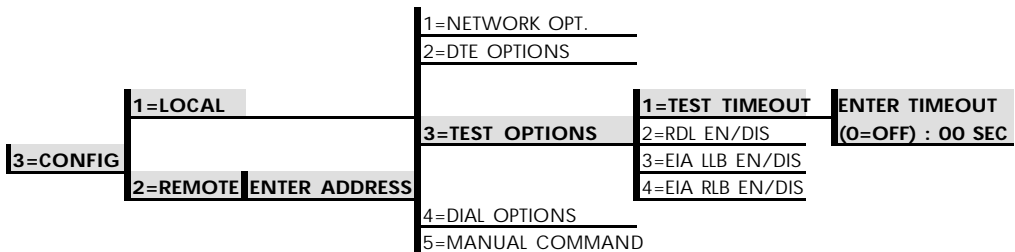

Figure 7-1
The TEST TIMEOUT option sets the length of time a DSU III AR remains in a test mode before automatically returning to the data mode. Enter the timeout from 0 to 255 seconds. The factory default setting is off (0). Figure 7-1 shows the menu path used to access TEST TIMEOUT.